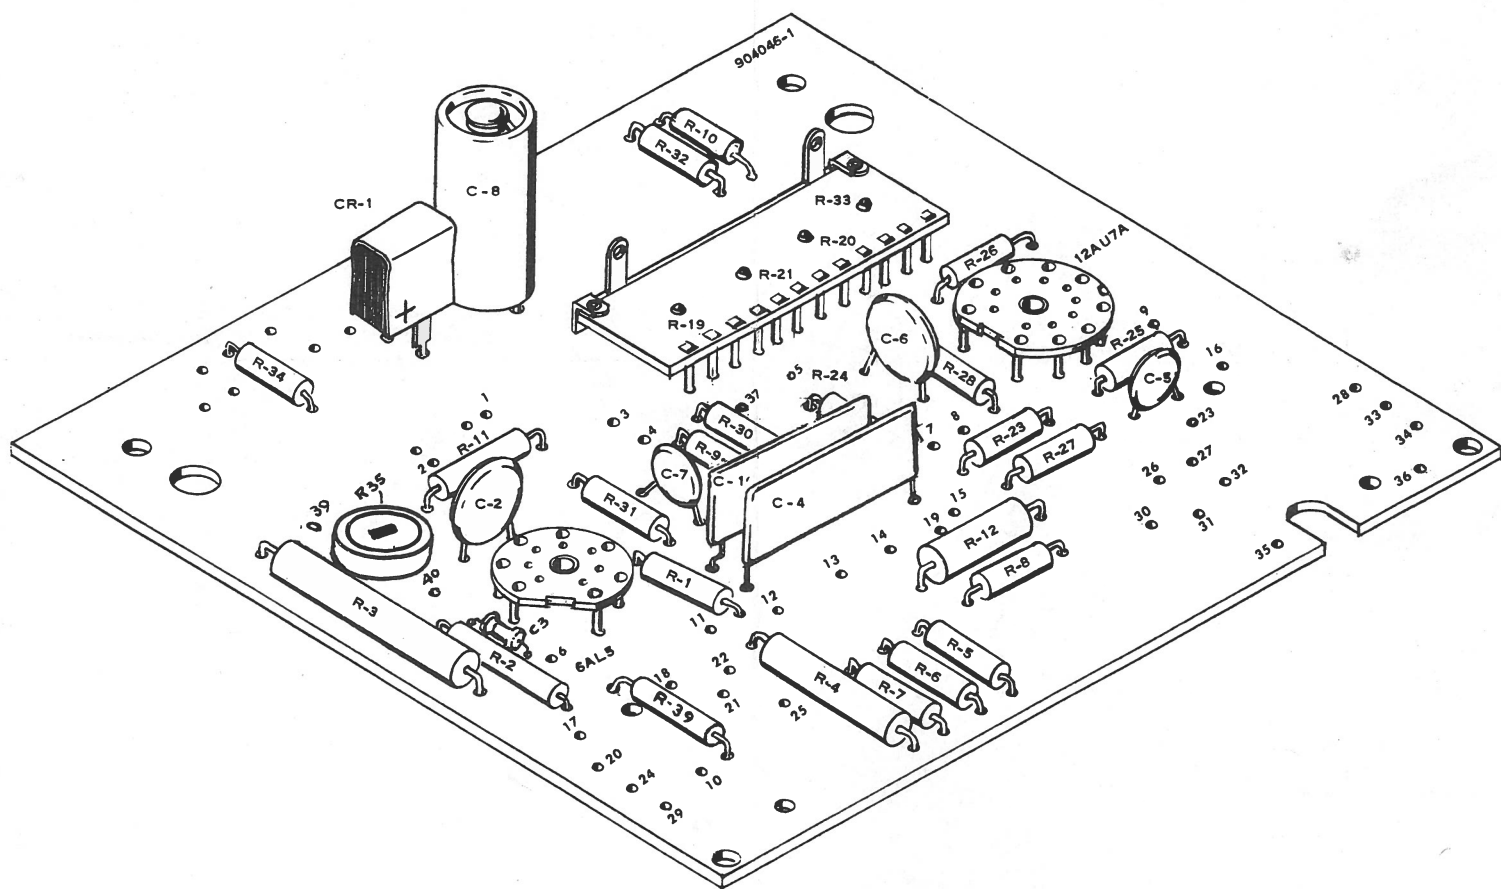

FIGURE 1
17. ☒ Mount resistor R-9 (8.49 Meg). (S)
18. ☒ Mount resistor R-31 (1 Meg). (S)
19. ☒ Mount resistor R-1 (150K). (S)
20. ☒ Mount resistor R-39 (1K). (S)
21. ☒ Mount resistor R-11 (16 Meg). (S)
22. ☒ Mount resistor R-2 (324K). (S)
23. ☒ Mount resistor R-3 (900K). (S)
24. ☒ Mount resistor R-34 (180K). (S)
25. ☒ Mount resistor R-32 (47K). (S)
26. ☒ Mount resistor R-10 (91 Meg). (S)
27. ☒ Select C-5, a .01  $\mu$ fd ceramic disc capacitor. Insert the leads of C-5 into the holes on board marked "C-5". This type of capacitor is mounted perpendicular to the board, as shown in Figure 1. (S)
28. ☒ As above, mount capacitor C-6 (.005  $\mu$ fd). (S)
29. ☒ Mount capacitor C-7 (.01  $\mu$ fd). (S)
30. ☐ Mount capacitor C-2 (.02  $\mu$ fd). (S)
31. ☒ Select C-4, the .1  $\mu$ fd rectangular-shaped ceramic capacitor. Insert the leads of C-4 into the holes marked "C-4" on the laminated board. (S) Clip off excess leads.
32. ☒ Select C-1, the .05  $\mu$ fd rectangular-shaped capacitor. Insert the leads of C-1 into the holes marked "C-1" on the laminated board. (S) Clip off excess leads.
33. ☒ Select C-8, a 10  $\mu$ fd electrolytic tubular capacitor. Insert the pins of C-8 into the holes marked "C-8" on the laminated board. Be sure that the pin marked "+" on the capacitor is inserted in the hole marked "+" on the board. (S)
34. ☒ Select C-3, a 24  $\mu$ fd ceramic tubular capacitor. Insert the leads of C-3 into the holes on the laminated board marked "C-3". (S) Clip off excess leads.
35. ☒ Select CR-1, the selenium rectifier. Insert the lugs of CR-1 into the holes provided on the laminated board. Be sure the pin marked "+" is inserted in the "+" hole of the laminated board. (S)
37. ☒ Select the four-section potentiometer, R-19, R-21, R-20, R-33. Insert the twelve pins of the potentiometer into the 12-hole pattern on the laminated board, with the body of the potentiometer in the position shown in Figure 1. The four blue adjustment controls must extend through the four holes in the board marked, "AC Z", "DC-", "AC", and "DC+". Press the potentiometer firmly against the board until the pins protrude approximately 1/16 inch beyond the copper foil. Bend the tips of the pins against the foil to hold the potentiometer in place. Solder each of the twelve pins to the copper foil. Be sure that a good solder connection is made at each pin, and that the solder does not flow beyond the foil section and contact an adjacent solder joint or copper strip.